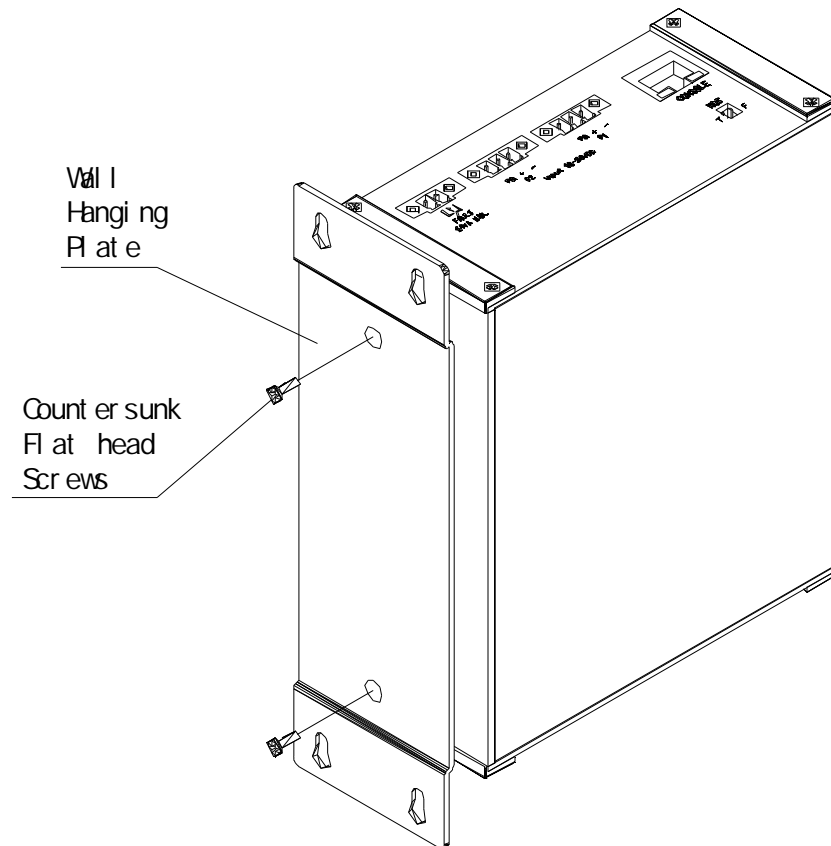

Figure 4-4 Mounting of the Wall Hanging Plate
- 2 . Take out the wall mounting board and its mounting screws (M3×6 cross recessed countersunk flat head screws) from the packing box. Mount the board on the position that the DIN rail connecting seat is on formerly. Ensure the mounting direction of the board in accordance with the Figure 4-4.